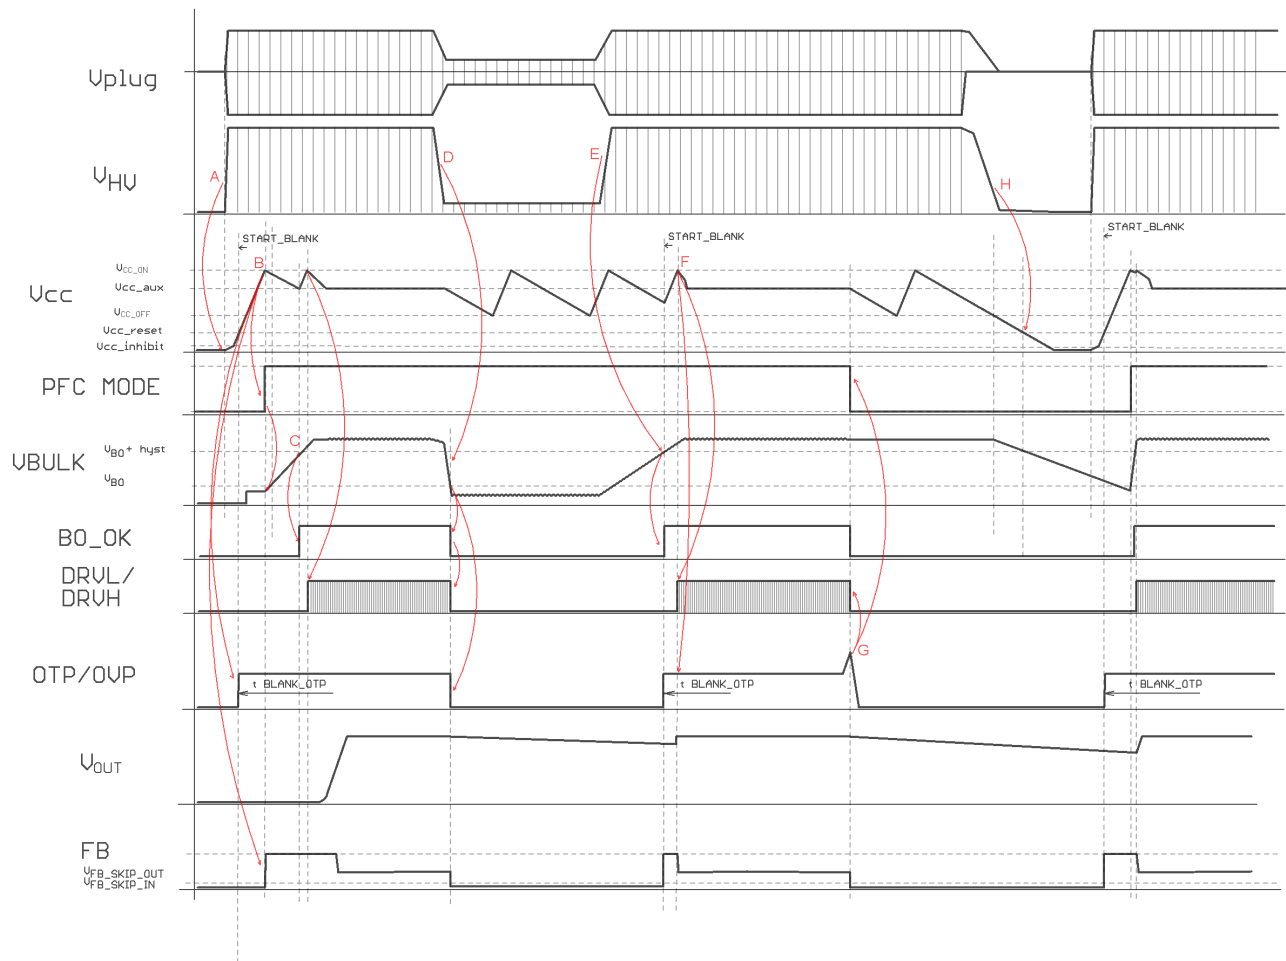

Figure 85. Application Start, Brown-out Off and Restart, OVP/OTP Latch and then Restart
*Application start, Brown-out off and restart, OVP/OTP latch and then restart* – Figure 85
Operating waveforms descriptions for this figure is similar to one for Figure 85 from point A till point G